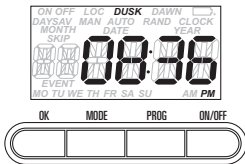

Fig. 9
- The timer will now display **DUSK** and the calculated sunset time for your location (Fig. 9).